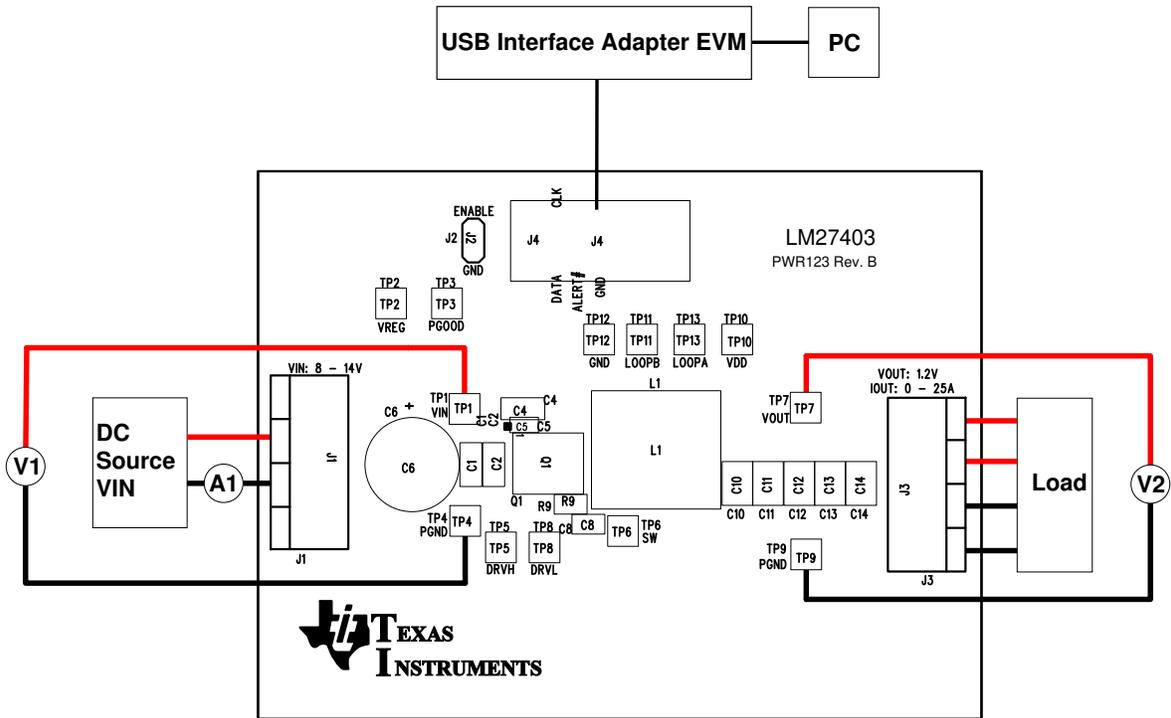

Figure 4-3. TPS53819AEVM-123 Recommended Test Setup
1. Prior to connecting the DC input source V_{IN} , it is advisable to limit the source current from V_{IN} to 10-A maximum. Make sure V_{IN} is initially set to 0 V and connected to J1 as shown in Figure 4-3.
2. Apply the input voltage to the EVM. Refer to Figure 4-3 for connections and test setup.
1. Set up the EVM as described in Section 4 and Figure 4-3.
2. Set up EVM as described in Section 4 and Figure 4-3.